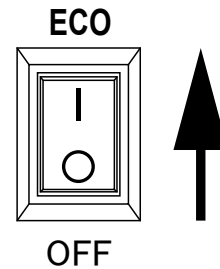

Figure 23. ECO Mode Switch (Activate)
1. To activate ECO mode, place the ECO mode switch to the ECO position (Figure 23) while engine switch is on. When electrical devices are used, the engine speed is adjusted to support the actual power consumption. When electrical devices are not used, the engine automatically operates at low speed. Fuel consumption and noise are reduced in this mode.